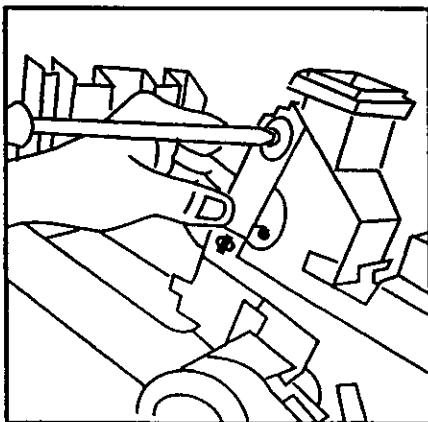

Fig. 15
1. Remove screw while holding spring in position. Note position of spring before removing (Fig. 15)